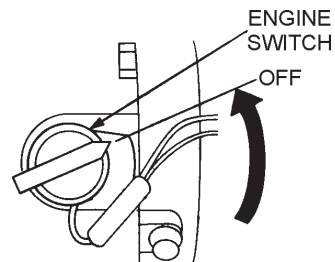

Figure 17. Engine ON/OFF Switch (OFF)
2. After the engine *cools*, turn the engine ON/OFF switch to the “OFF” position (Figure 17).